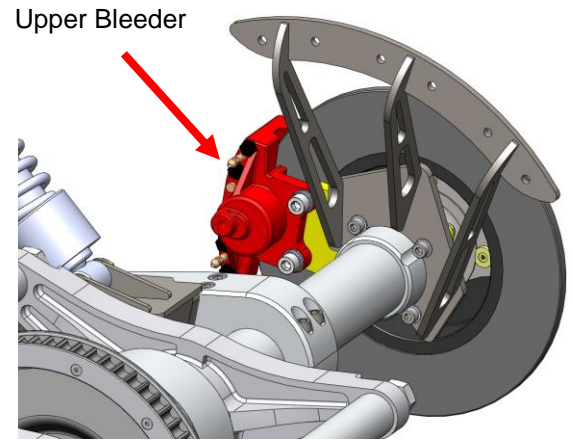

Figure 11
- b. Using brake fluid specified on the master cylinder, bleed rear brake system thoroughly using the *upper* bleeders, Figure 11, on the rear brake calipers. Once assembled replace with new factory specified brake fluid; adjust accordingly and check for leaks. You may need to adjust the rear brake push rod to get the pedal in a comfortable position due to the increased pedal throw associated with the dual rear calipers.
- a. Attach fender brackets from Box 5 to rear end housing using the supplied hardware. Torque to 19 lb. ft. Figure 11